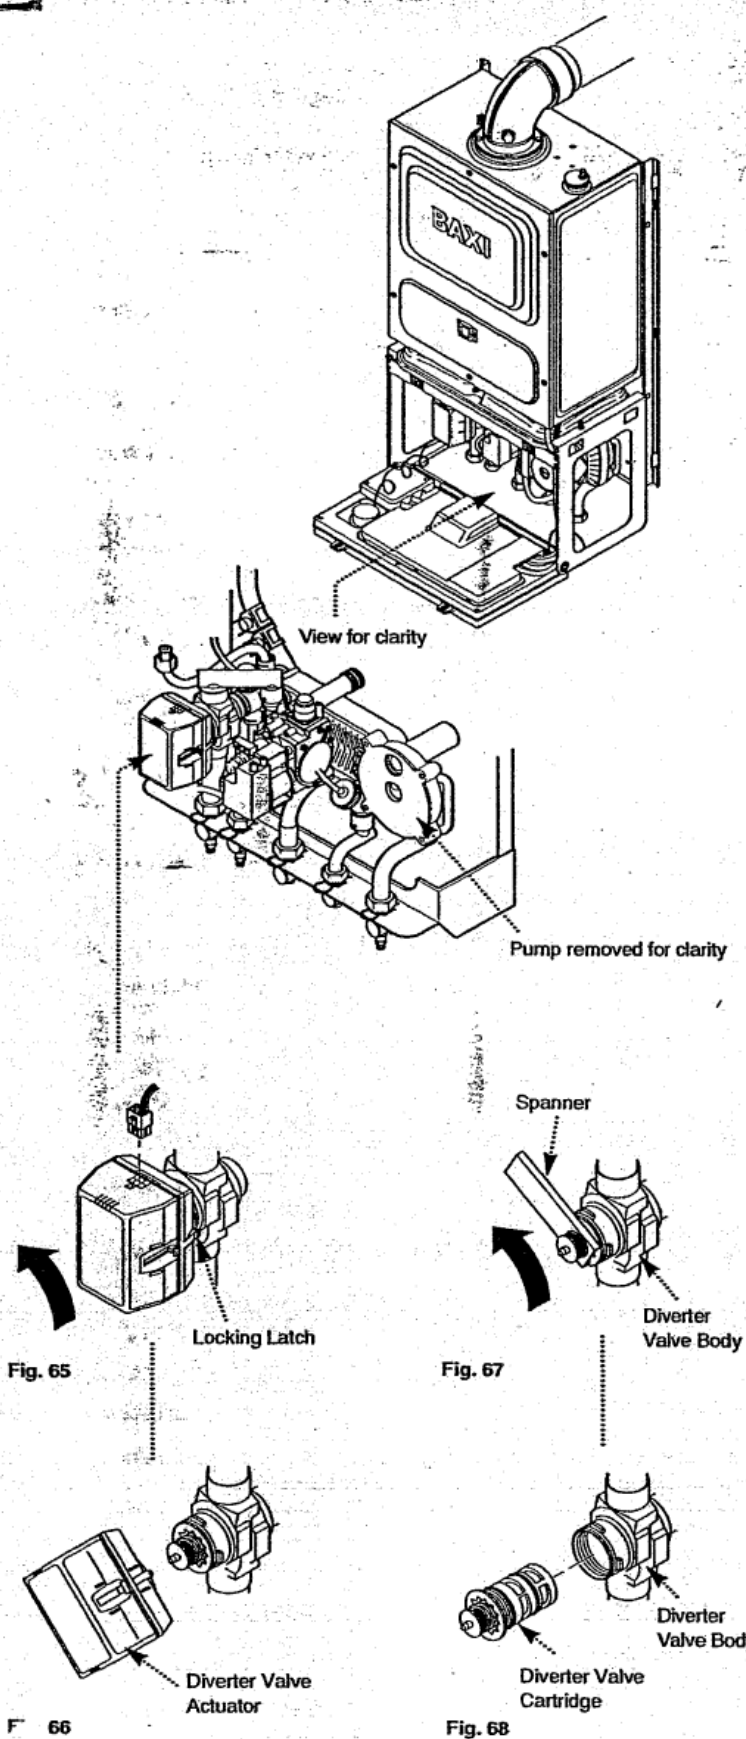

Fig. 66, 67, 68
2. Depress the locking latch whilst rotating the head anticlockwise through 45° (Fig. 65) and pull forward (Fig. 66).